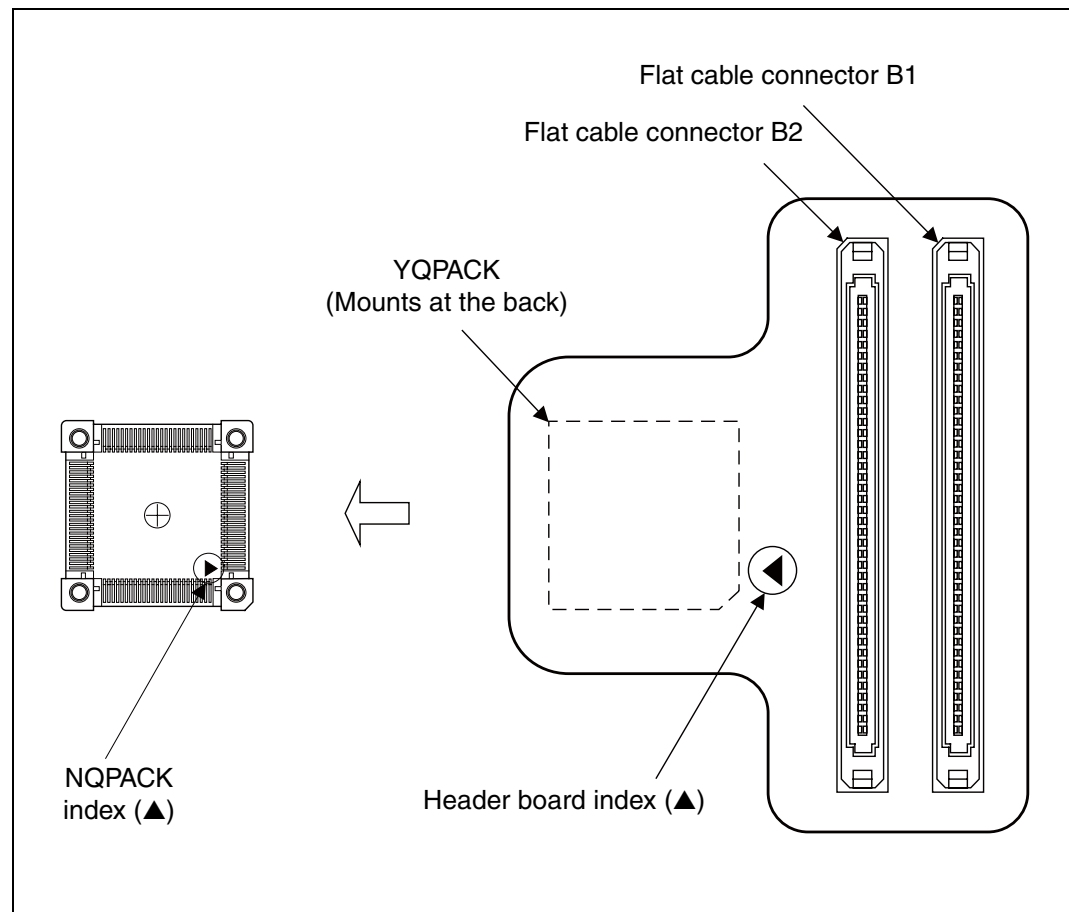

Figure 3 Index position
1. To connect the header board to the user system, match pin 1 indicated by the index mark (▲) on the NQPACK mounted on the user system with the index mark (▲) on the header board and then insert it (see “Figure 3”). The pins of YQPACK are thin and easily bent. When you are connecting the YQPACK to the NQPACK, ensure that the YQPACK pins are not bent before pushing it all the way into the NQPACK.